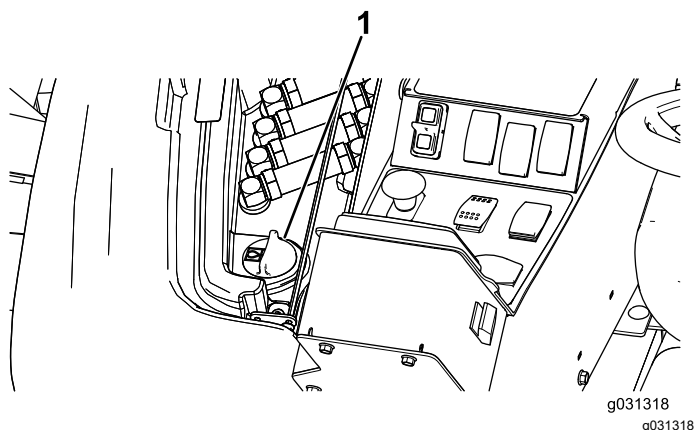

Figure 130
2. On the right side of the machine, raise the access cover to expose the hydraulic-tank cap (Figure 130).
3. Clean the area around the filler neck and cap of the hydraulic tank (Figure 130).